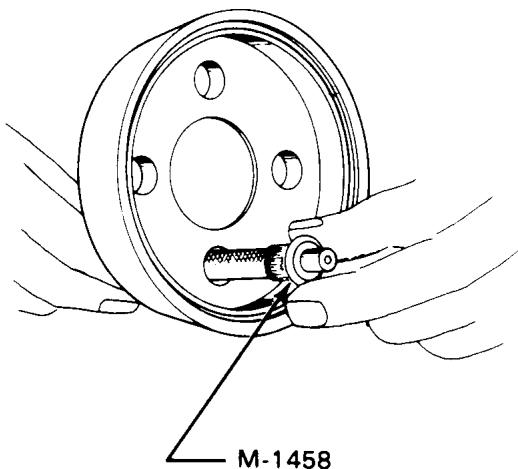

Figure 74-24. Securing Wire in Housing
- l. Install an M-1458 male tapered drive ferrule over insulation and under shielding as in step i, then drive ferrule into M-1569 housing using M-1744 drive tool, similar to step j. Refer to Figure 74-24.